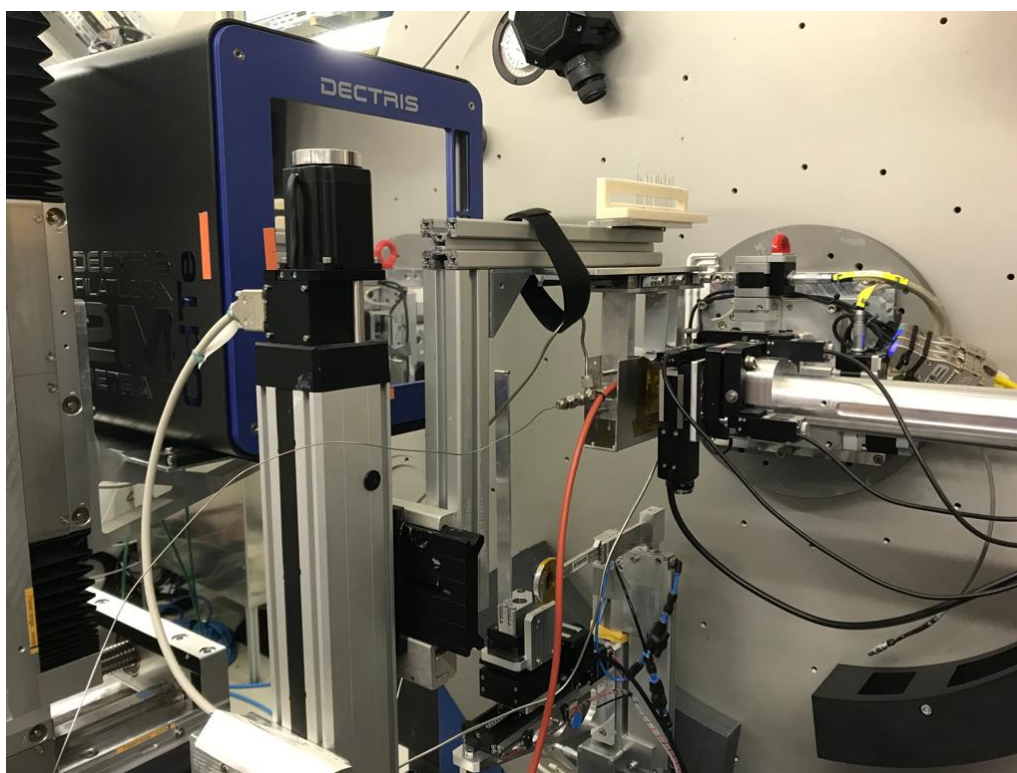
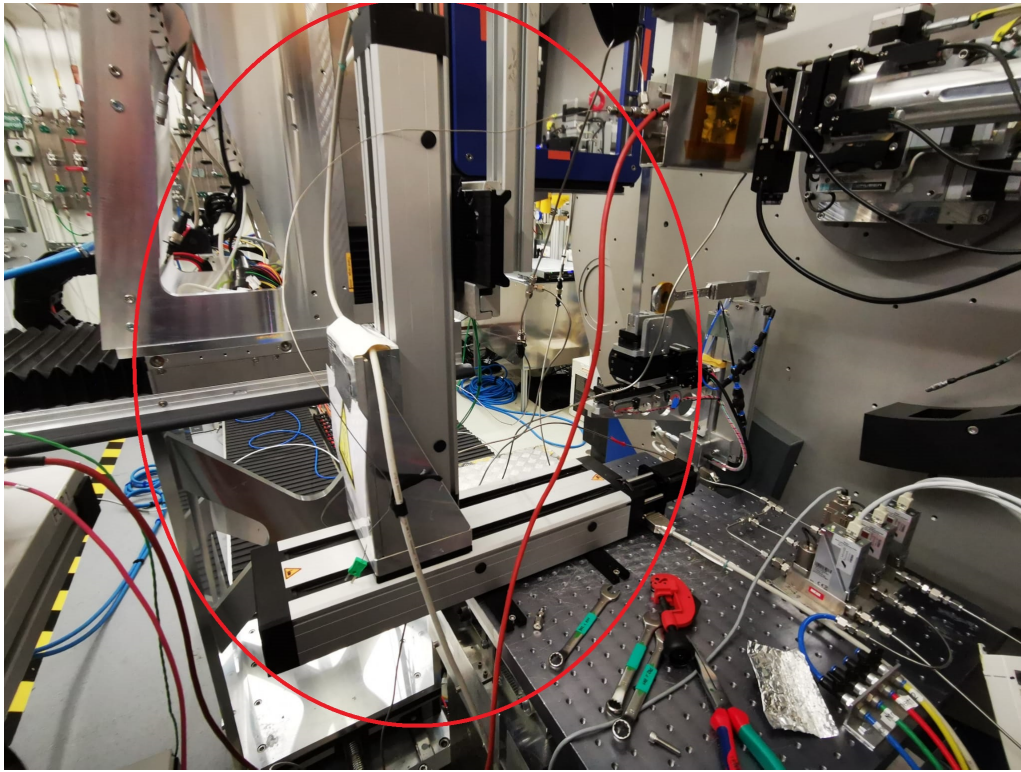

Figure 3: Comparable experimental setup at DESY
Figure 4: Close up on the X/Y stage
- The same setup was just used at a beamtime at DESY and can be seen in Figure 3. The flow cell was installed upside down on a X/Y stage, allowing sample exchange to run smoothly. The X/Y stage can be seen highlighted in Figure 4.